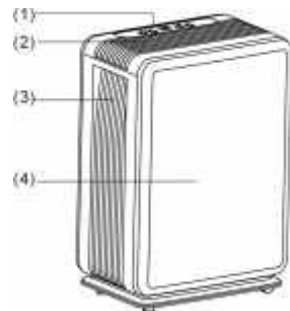

Fig. 1
4. APPLIANCE DESCRIPTION (Fig. 1,2)